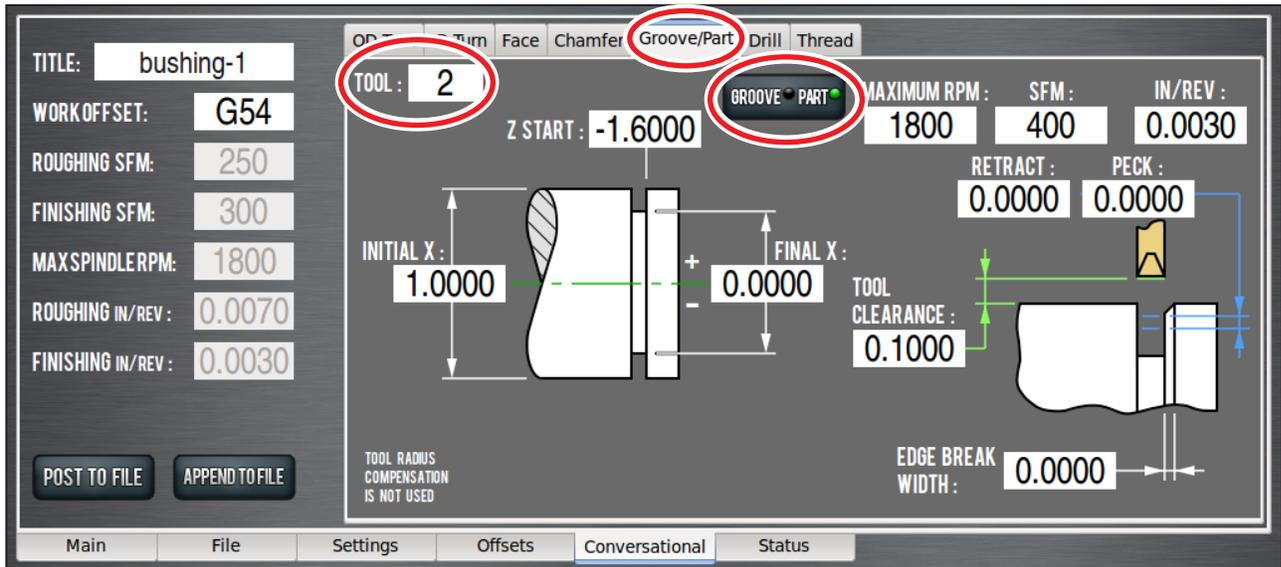

Figure 4.33
1. Click *Groove/Part* tab on the *Conversational* screen; toggle the *Groove/Part* button to select the *Part* screen. Enter values shown in **Figure 4.33**.
**NOTE:** Ensure tool 2 is entered in the Tool DRO (see **Figure 4.33**). Using tool 1 generates an error message to alert that a right-hand turning tool is not a valid tool for a parting routine.